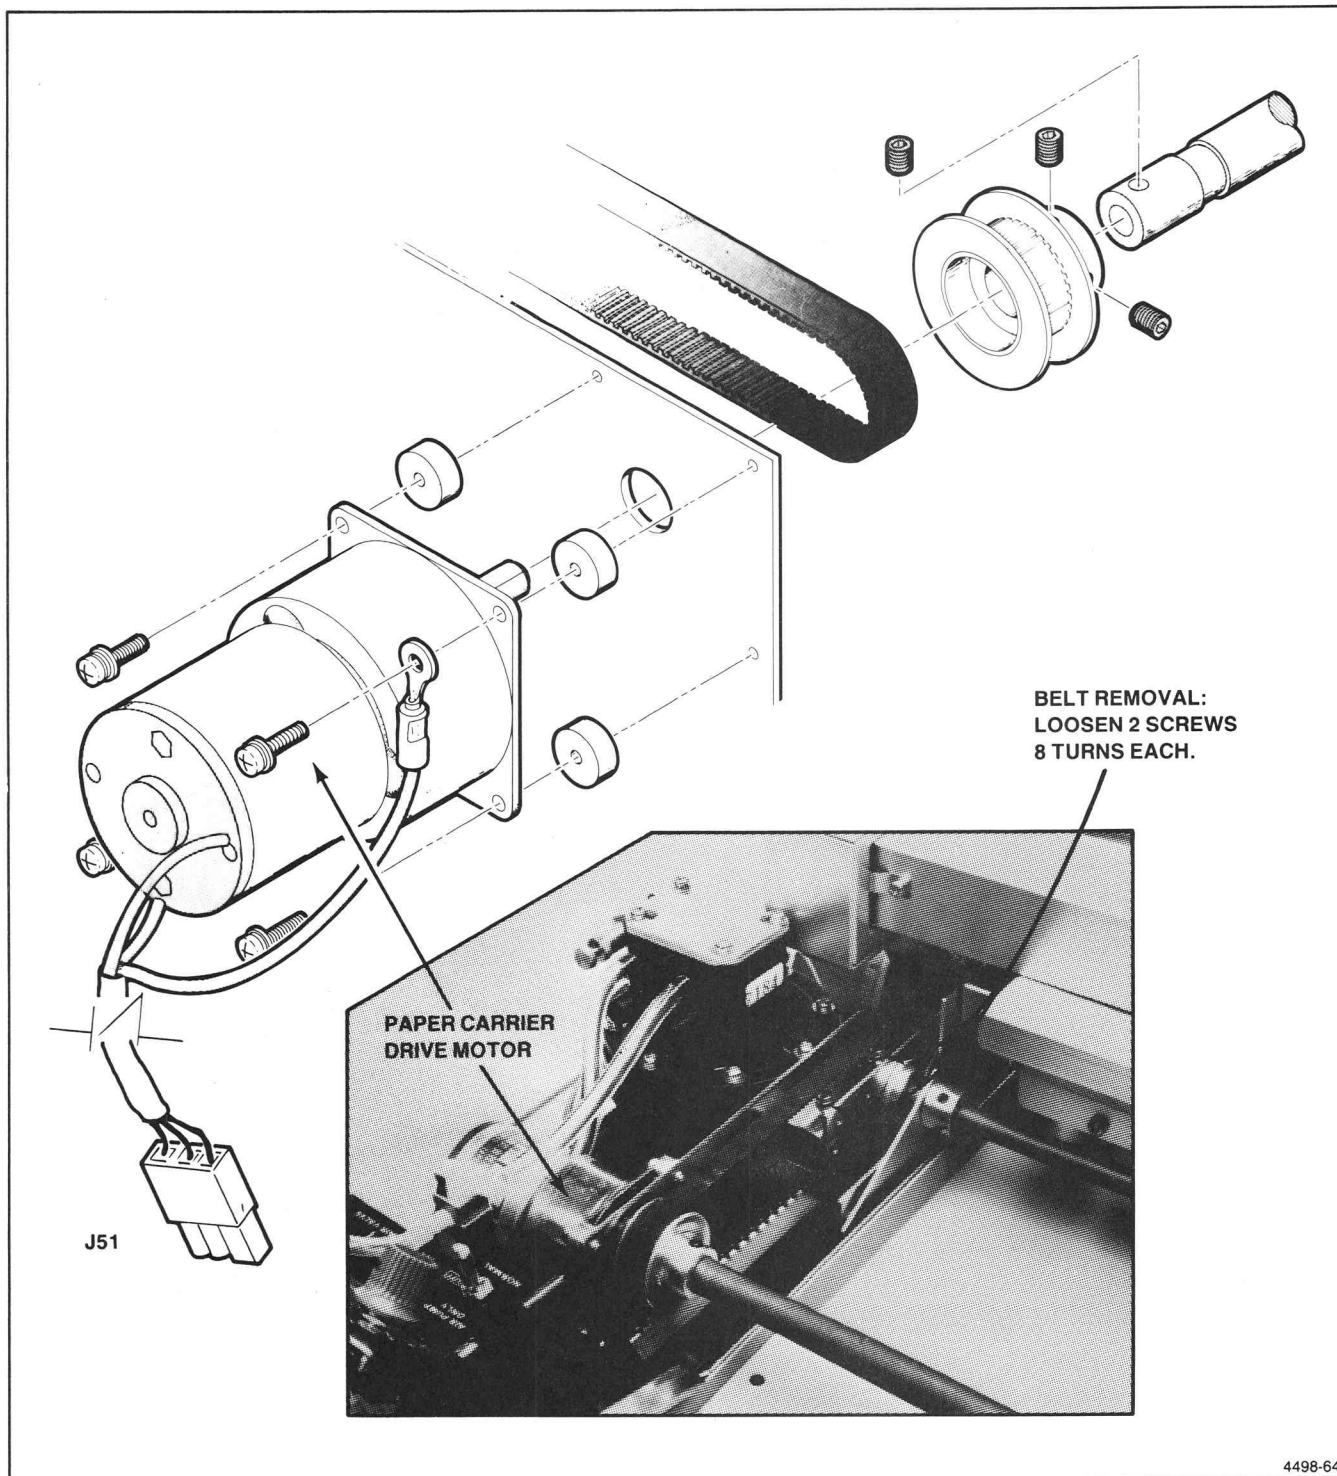

Figure 7-24. Paper Carrier Drive Motor and Belt Removal.
1. Loosen the two belt clamp screws on each side about eight turns each. See Figure 7-24.